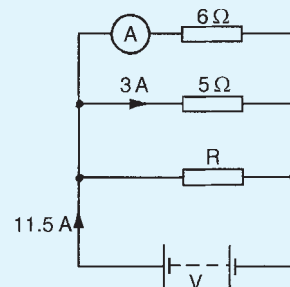

Figure 5.29
- For the circuit shown in Fig. 5.29 determine (a) the reading on the ammeter, and (b) the value of resistor R [$2.5\ A$, $2.5\ \Omega$]